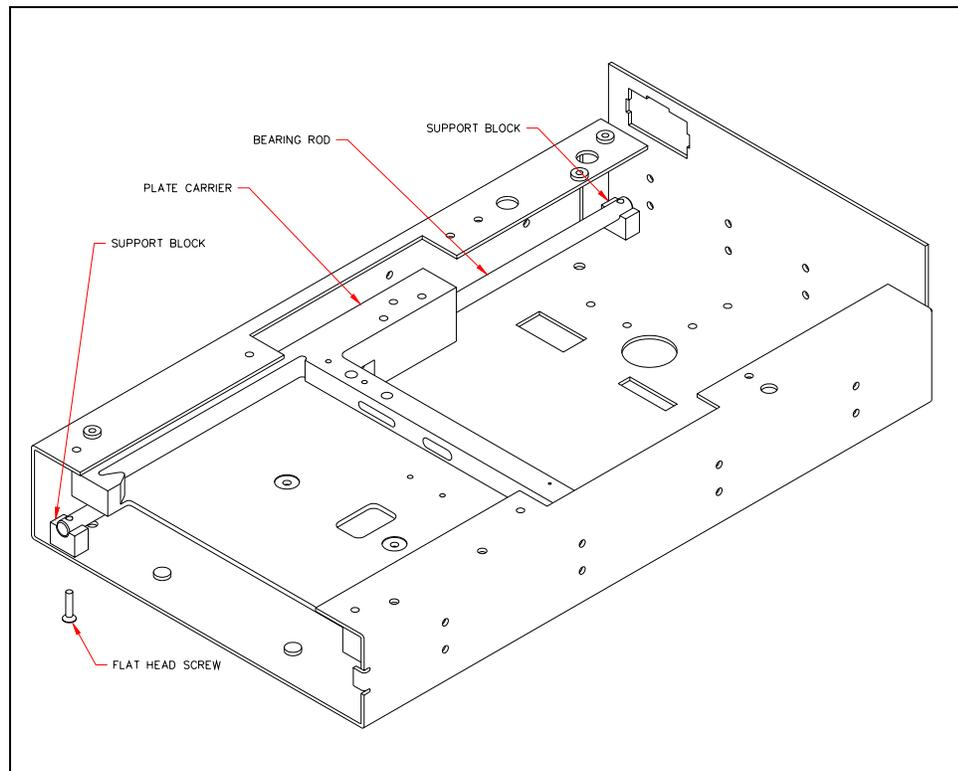

Figure 11-19 Installing Bearing Shaft
- 2 Install this assembly into the chassis (Figure 11-19) using two support blocks and two M2.5 x 12mm Flathead screws using Loctite 222.